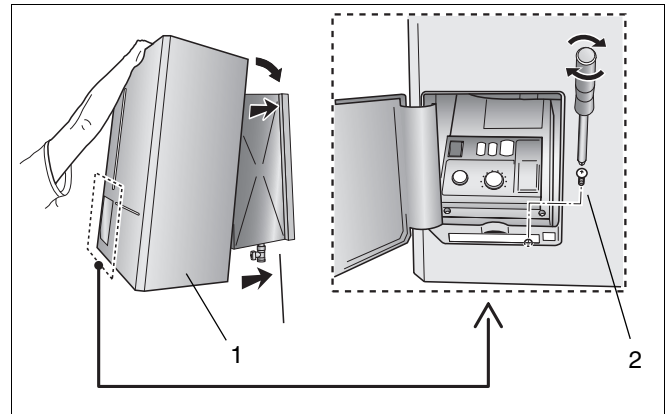

Fig. 26 Place casing
- Place the casing (see fig. 26, item 1).
- Tighten the fixing screw (see fig. 26, item 2).